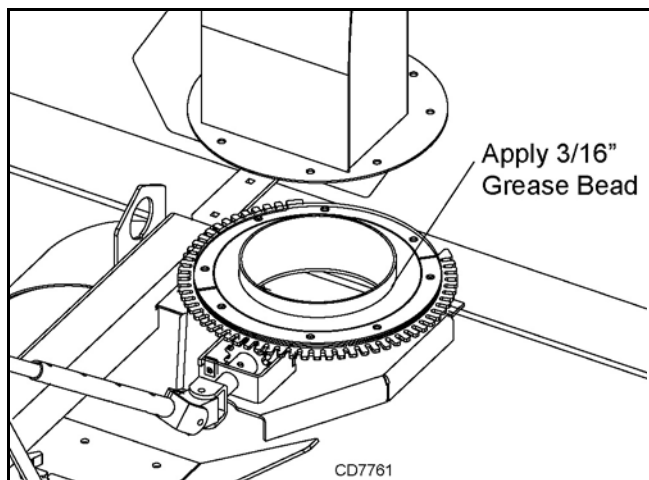

Figure 11. Chute Base and Rotator Ring
1. Apply grease between the discharge chute base and ring on the frame tube, Figure 11, annually.